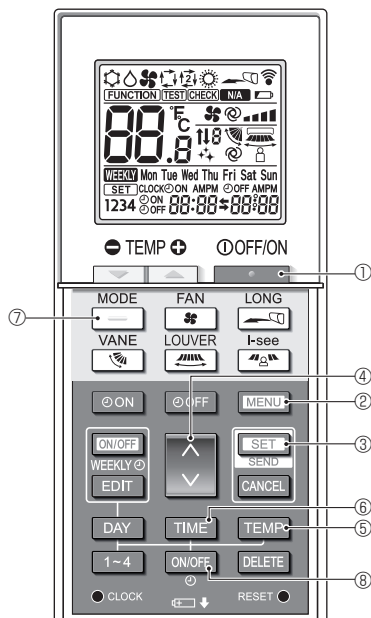

Fig. 6-9
1. Press the **STOP** button ① to stop the air conditioner.
2. Press the **SET** button ③ in 5 seconds. Model setting screen will be displayed.
3. Press the **←** button ⑦. Operation mode Ⓐ blinks. (Fig. 6-9)
4. Press the **↓** button ④ to change setting No.
5. Check that setting No. "6" is displayed and only blink at operation mode Ⓐ, then press the **SET** button ③ in 5 seconds.